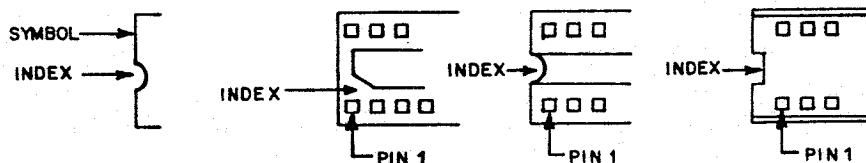

FIGURE 1
- [ ] Install the 14, 16, 18, 24, 28, and 40 pin IC sockets on the printed circuit board. Orient Pin 1 towards the top of the board or to the left, as applicable. See Figure 1 for information on locating Pin 1 on each socket.